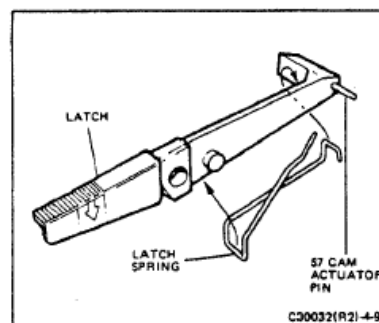

FIGURE 4-97 FRONT COVER LATCH SPRING
1. Using Figure 4-97 as a guide, install the latch spring on the latch.